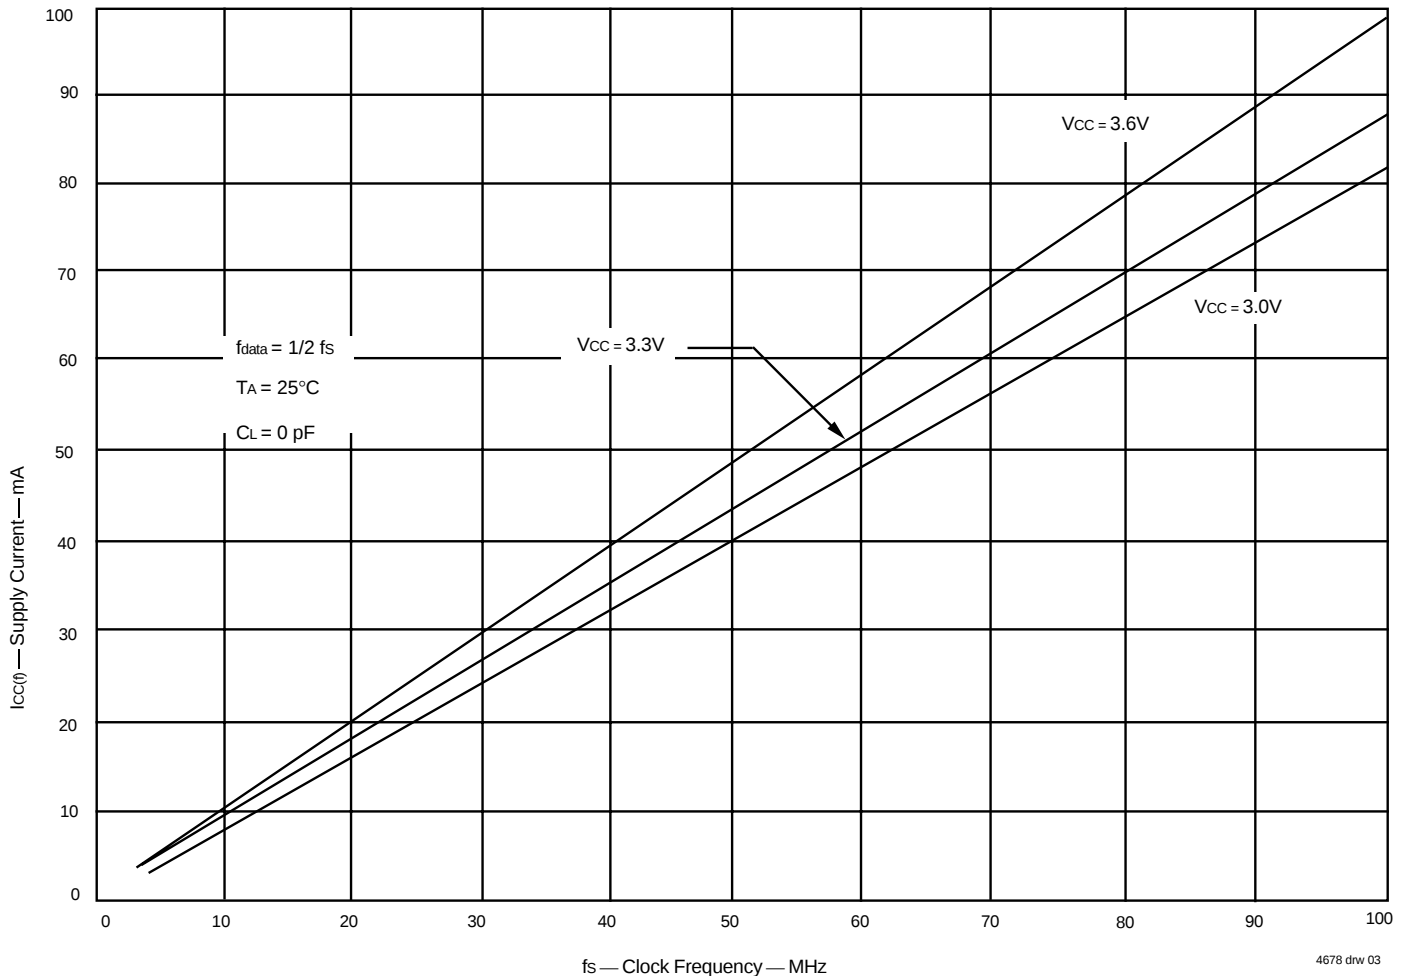

Figure 1. Typical Characteristics: Supply Current ( $I_{CC}$ ) vs. Clock Frequency ( $f_s$ )
- For additional ICC information, see Figure 1, *Typical Characteristics: Supply Current (ICC) vs. Clock Frequency (fs)*.
The  $I_{CC(f)}$  current for the graph in Figure 1 was taken while simultaneously reading and writing a FIFO on the IDT72V3683/72V3693/72V36103 with CLKA and CLKB set to  $f_s$ . All data inputs and data outputs change state during each clock cycle to consume the highest supply current. Data outputs were disconnected to normalize the graph to a zero capacitance load. Once the capacitance load per data-output channel and the number of IDT72V3683/72V3693/72V36103 inputs driven by TTL HIGH levels are known, the power dissipation can be calculated with the equation below.
With  $I_{CC(f)}$  taken from Figure 1, the maximum power dissipation (PT) of these FIFOs may be calculated by: